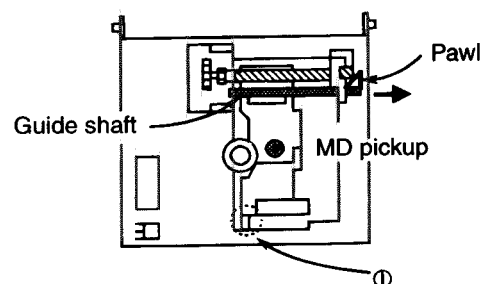

Fig. 6
2. Remove the two screws (K) retaining the magnetic head unit (See Fig. 6).
(See Fig. 6)